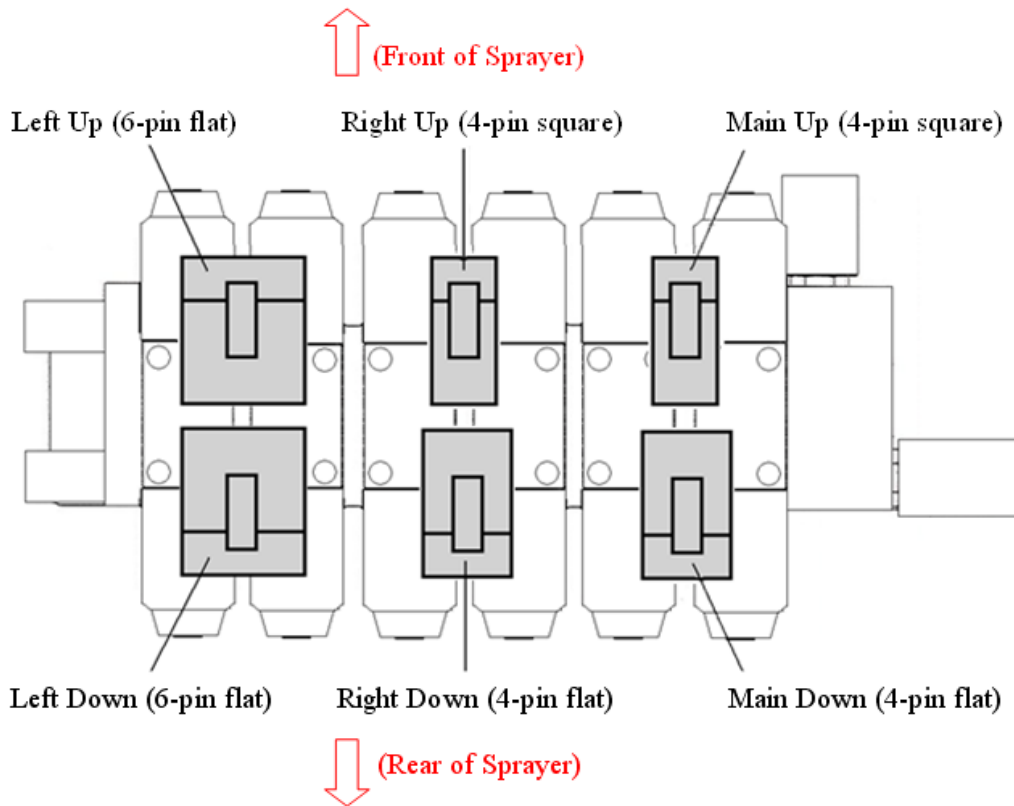

Figure 21: John Deere Boom Valve Block (top view) with Connectors Labeled
11. Insert the connectors labeled **Main Up** and **Main Down** on C12 into the main lift connectors on the John Deere solenoids (**Figure 21**).